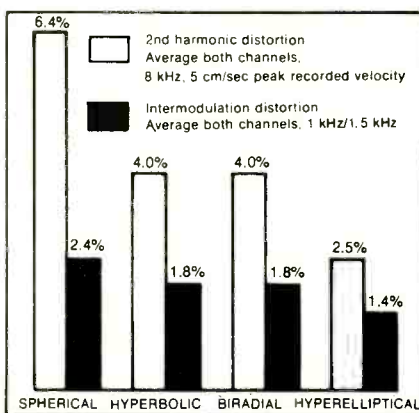

Fig. 16— Harmonic and intermodulation distortion for various tip shapes.
A) *Distortion Measurements:* The dimensions of the hyperelliptical tip theoretically indicate that it will trace the signal more accurately than its predecessors. Tests performed which verified this are as follows (Fig. 16):